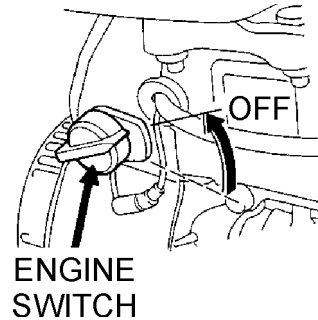

Figure 16. Engine ON/OFF Switch (OFF Position)
2. After the engine **cools**, turn the engine start/stop switch to the "OFF" position (Figure 16).
2. After the engine **cools**, turn the engine start/stop switch to the "**OFF**" position (Figure 16).